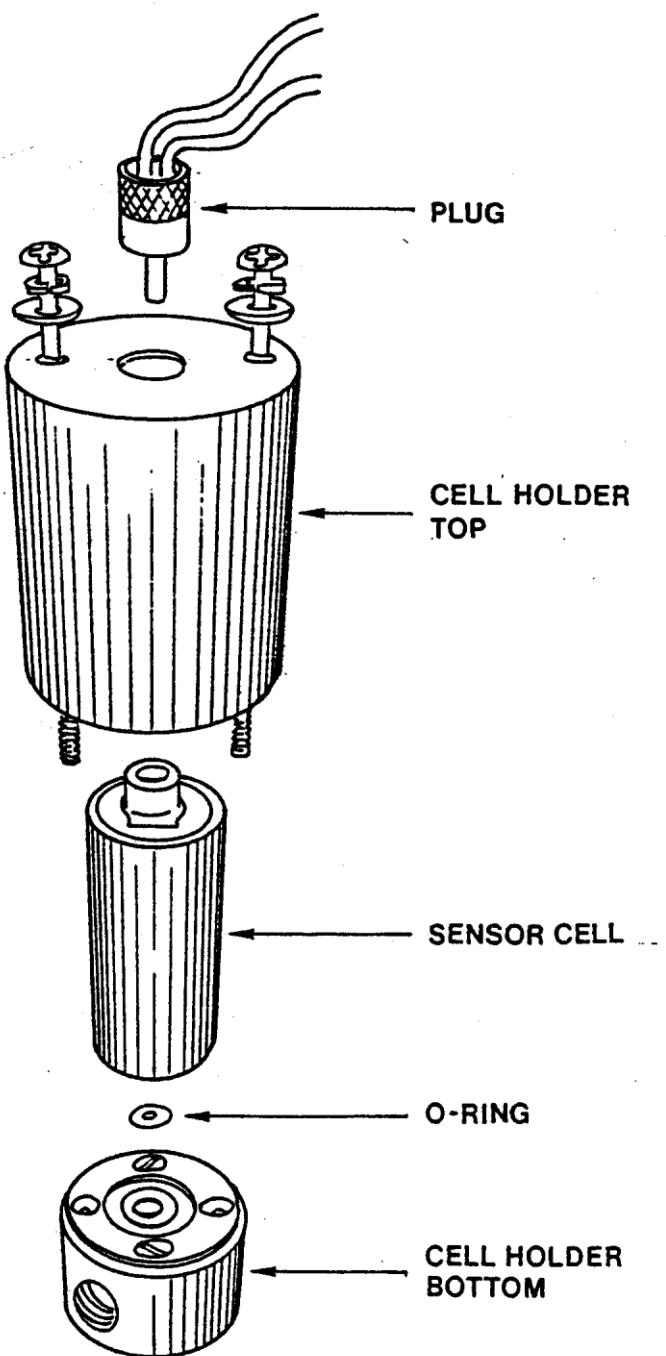

Figure 8: O2 Sensor Cell & Holder
2. Remove the electrical plug from the top of the cell assembly (see Figure 8).